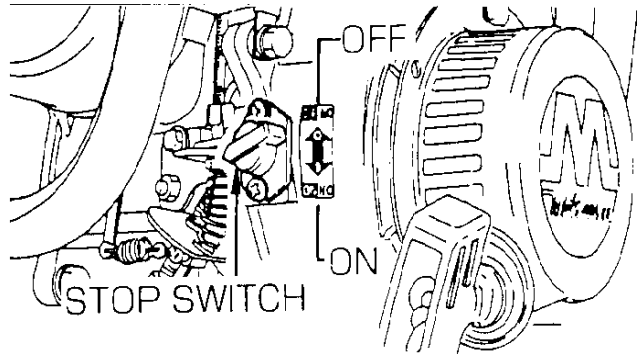

Figure 6. Engine On/Off Switch
2. Set the engine ON/OFF switch (Figure 6) to the "ON" position (start).
- Move the throttle lever quickly to the **IDLE** position, and turn the engine start/stop switch (Figure 6) to the **STOP** position.